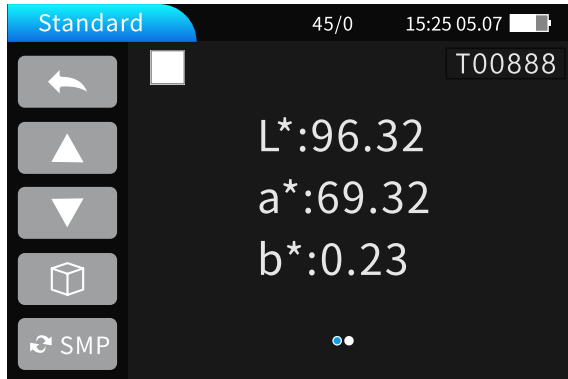

Figure 66 Sample Record to Print
1. Connect the micro printer to the instrument via USB, and locate the record in the standard or sample records lists(Figure 66).